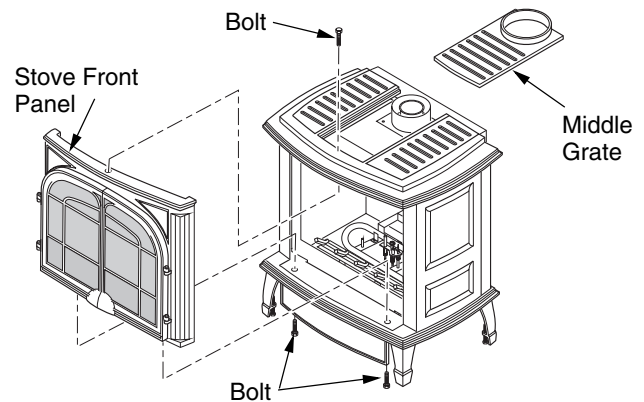

Figure 52 - Removing Front Panel from Stove (Oxford™ Model Shown)
- If stove front panel is still installed, remove 2 bolts from bottom of stove and one from the top of stove to remove front panel (see Figure 52). For the Oxford stove the middle grate will need to be removed to remove the top bolt.